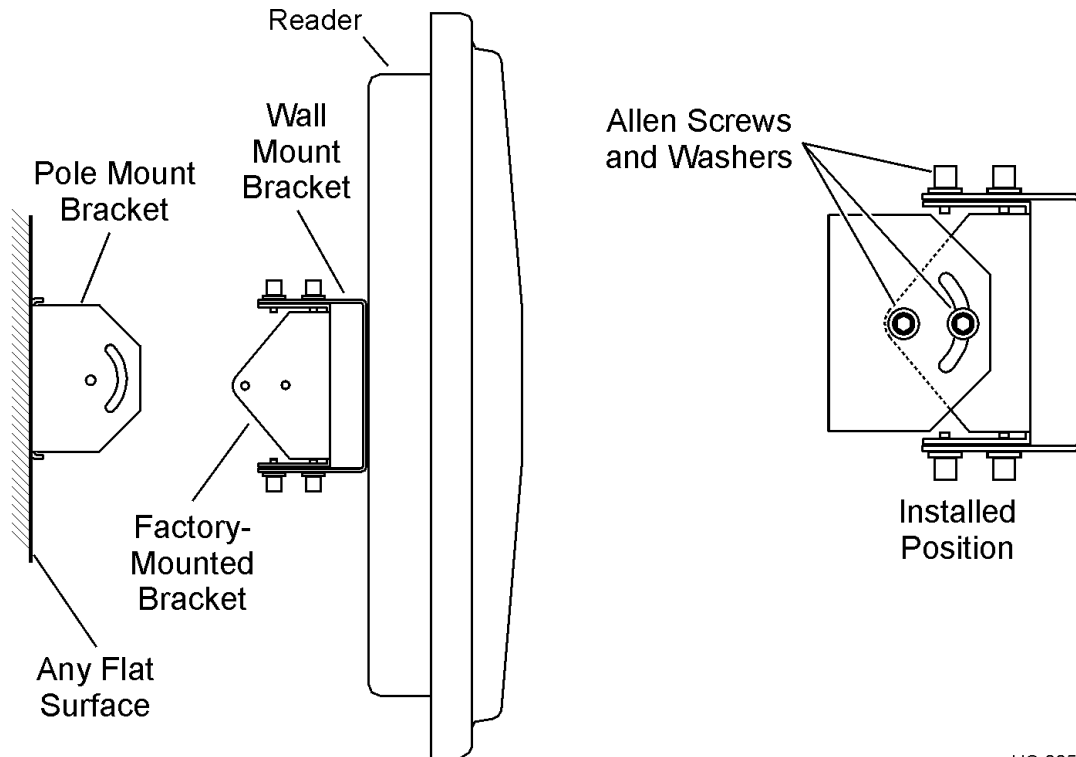

Figure 36 Connecting the Encompass 4H Assembly to Pole Mount Bracket
8. Mount the Encompass 4H Reader to the pole-mount bracket using Allen screws, as shown in Figure 36.